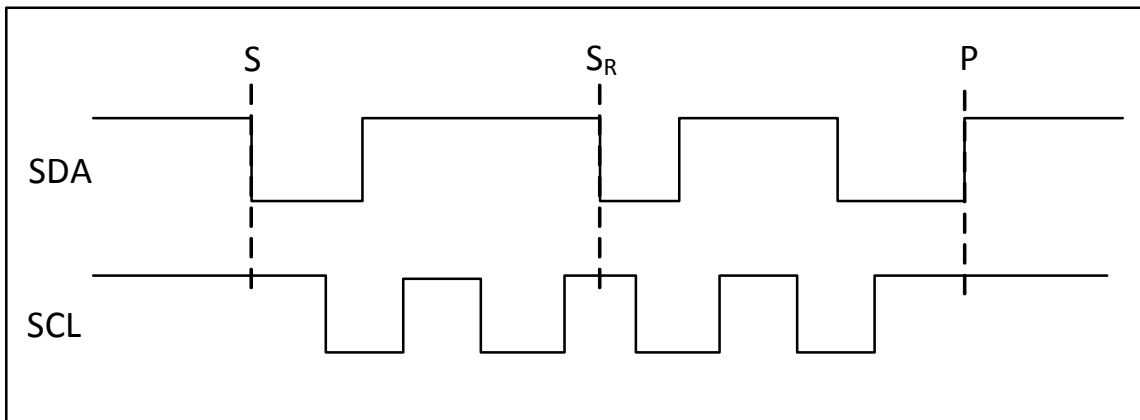

Figure 8. Start and Stop Conditions
The I2C/SMBus serial port is a two-wire serial bus where data line SDA is bidirectional and clock line SCL is unidirectional. Reads and writes to this interface by the master are byte-oriented, with the I2C/SMBus master controlling the serial data rates up to 240 kbps. The SDA and SCL lines must be pulled high through pull-up resistors of 5 k $\Omega$  or less. An Si8901 ADC read transaction begins with a START condition ("S" or Repeated START condition "SR"), which is defined as a high-to-low transition on SDA while SCL is high (Figure 8). The master terminates a transmission with a STOP condition (P), defined as a low-to-high transition on SDA while SCL is high. The data on SDA must remain stable during the high period of the SCL clock pulse because such changes in either line will be interpreted as a control command (e.g., S, P SR). SDA and SCL idle in the high state when the bus is not busy. Acknowledge bits (Figure 9) provide detection of successful data transfers, whereas unsuccessful transfers conclude with a not-acknowledge bit (NACK). Both the master and the Si8901 generate ACK and NACK bits. An ACK bit is generated when the receiving device pulls SDA low before the rising edge of the acknowledged related (ninth) SCL pulse and maintains it low during the high period of the clock pulse. A NACK bit is generated when the receiver allows SDA to be pulled high before the rising edge of the acknowledged related SCL pulse and maintains it high during the high period of the clock pulse. An unsuccessful data transfer occurs if a receiving device is busy or if a system fault has occurred. In the event of an unsuccessful data transfer, the bus master attempts communication at a later time. Figure 10A shows the I2C Slave Address Byte and CNFG\_0 byte for the Si8901. Figure 10B and Figure 10C show master/Si8901 ADC read transactions for Demand Mode and Burst Mode, respectively.